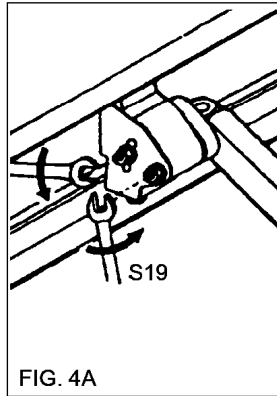

FIG. 4A
- * loosen the 2 sidenuts of the arm support (fig. 4A).